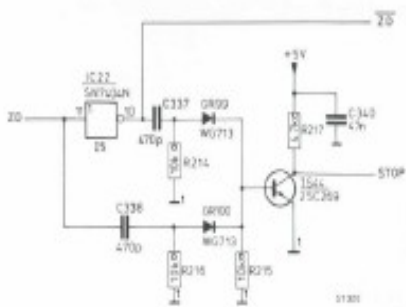

Fig. 15. Stop signal generator
## 2. Stop signal generator (Fig. 15)
c. DOWN signal (Fig. 15)